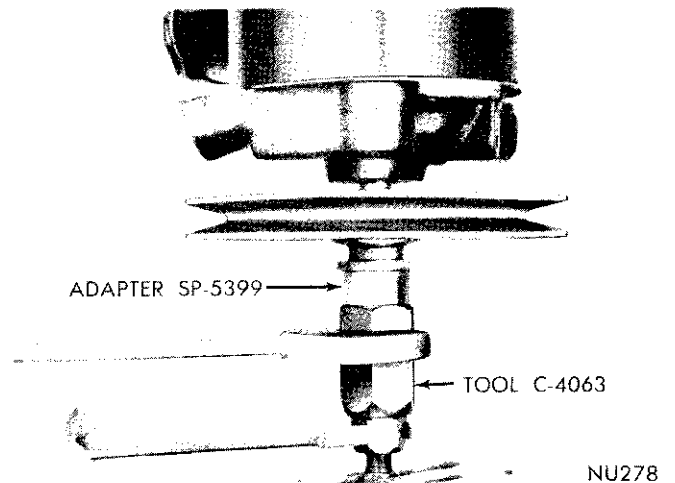

Fig. 32—Pulley Installation
(8) Install drive pulley. See "Pulley Installation". (Fig. 32).
(9) With installer shaft clamped securely in vise, tighten drive nut against thrust bearing and press pulley onto shaft.
(16) Place reservoir on pump body and visually align mounting bolt hole. Tap reservoir down on pump with plastic hammer.
(17) Remove pump from vise and install mounting brackets with three mounting bolts, tighten to 18 foot-pounds.
(18) Install drive pulley. See "Pulley Installation" (Fig. 32).
Pumps installed on eight cylinder engines have drive pulleys pressed flush with the end of the pump shaft. With drive pulley placed on end of shaft, securely thread installer Tool C-4063, with adapter SP-5399, into 3/8 inch threaded hole in end of shaft (Fig. 32).